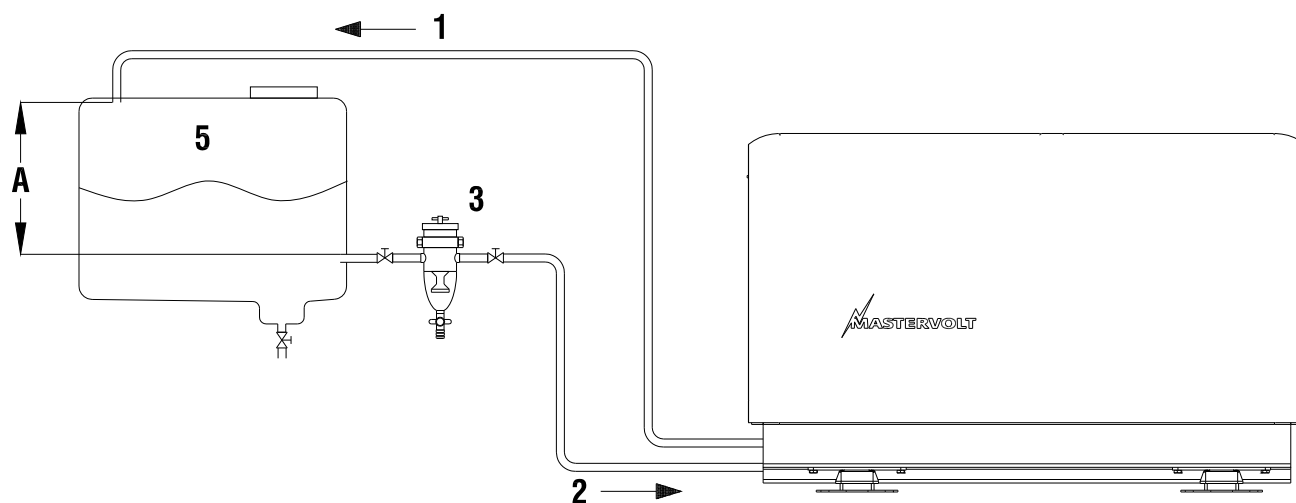

Figure 8: Fuel supply (fuel tank is above the generating set)
The generating set itself is equipped with a fuel lift pump; therefore the tank can be installed at a lower level than the generating set. See figure 8. The maximum suction height is 1 m.
When the tank is above the generating set (figure 8) we recommend ending the return line on the top of the tank. When the return is on the top - in case of a leakage the return line cannot overflow because of siphoning. One will only need a fuel cock in the fuel supply line. When the tank is below the generating set we recommend ending the return line on the bottom of the tank (A) below the inlet of the supply line.